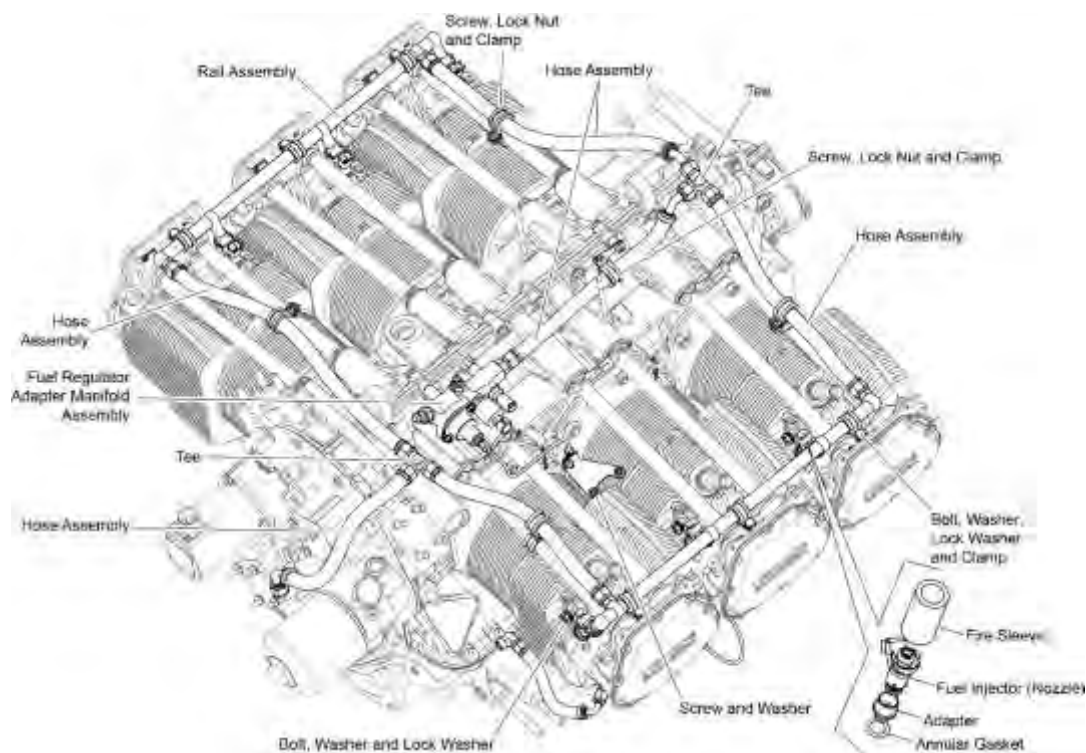

Figure 1
- C. Examine the two fuel injector rail assemblies (Figure 1) for damage, leaks, and loose fittings or connections. Tighten any loose fittings or connection in accordance with the Standard Torque Tables in the latest revision of the ***Service Table of Limits - SSP-1776***. Replace a damaged fuel injector rail per the “Fuel Injector Rail Assembly Replacement” section in this chapter.
- E. Examine the fuel injector and fire sleeves (Figures 1 and 9) for damage, leaks, and loose fittings or connections. If the fuel injector fire sleeves are damaged, replace them. Tighten any loose fittings or connection in accordance with the Standard Torque Tables in the latest revision of the ***Service Table of Limits - SSP-1776***. Replace a damaged fuel injector per the “Fuel Injector Replacement” section in this chapter.